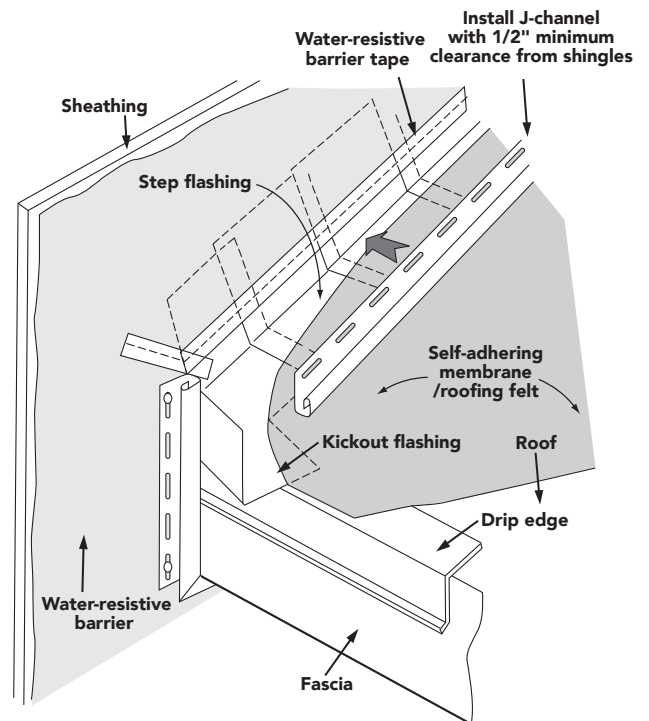

Figure 43
- As an alternative to the diverter, create a “kickout” from metal flashing, as shown in Figure 43.
**NOTE:** “Kickout flashing” (Figure 43) is an additional flashing strip that extends beyond the edge of the fascia that is required in some cold-climate localities.